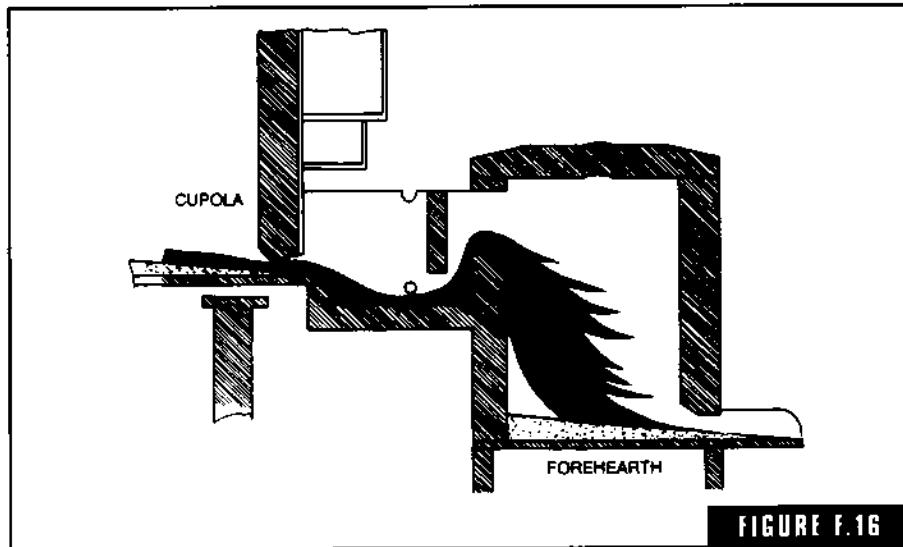

FIGURE F.16
**forehearth** A refractory-lined reservoir in front of a cupola connected to the cupola by a trough. It is used to collect the metal from the cupola (Fig. F-16). The cupola runs continuously and the metal is tapped from the forehearth. It may be treated in the forehearth. A large quantity of metal can be accumulated in the forehearth for a large casting.